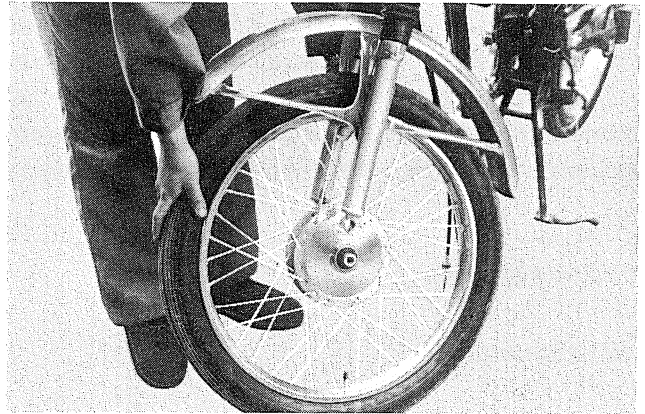

Fig. 4-1-5
- 3) Remove the front wheel ass'y. (Fig. 4-1-5)
As shown in Fig. 4-1-5, measure the runout of the rim with a dial gauge.